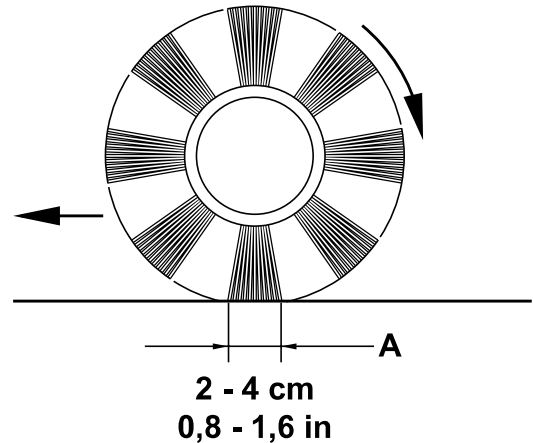

Figure 2
11. Check that the main broom print (A, Fig. 2), along its length, is 2 to 4 cm wide.
12. If the print (A) is not within specifications, adjust the broom height.